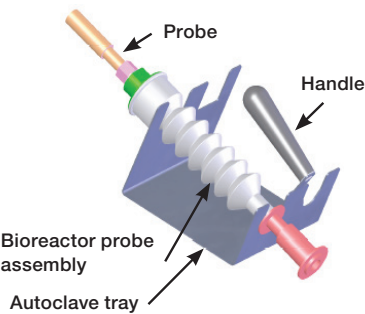

Figure 3. Autoclave tray for probe kits.
- **Autoclave tray (Figure 3)**—aids in holding the probe assembly during the autoclave process